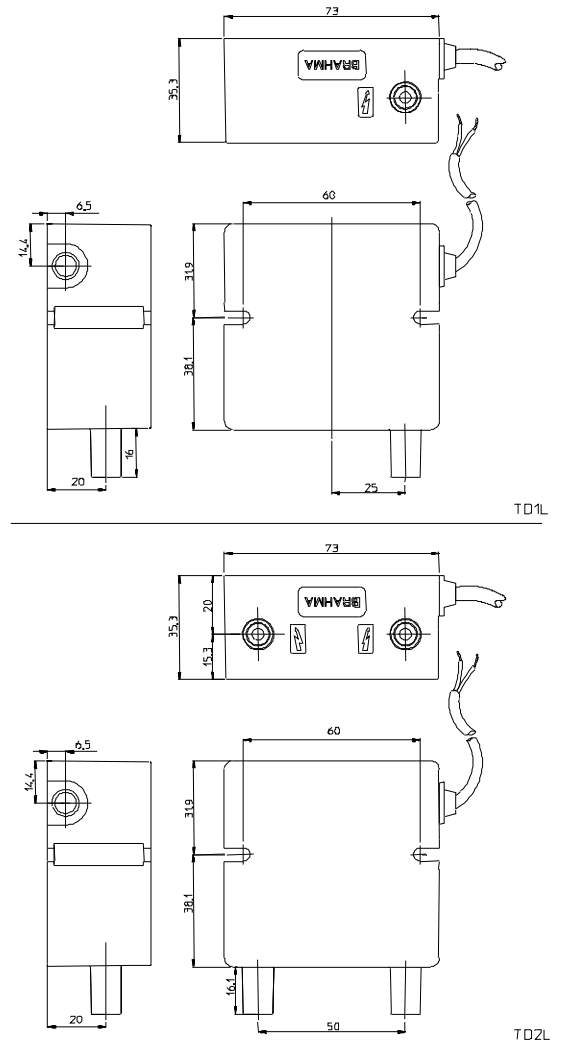

Fig.1
- C: supplied with cable (Fig. 1-Fig. 2);
- L: lateral isolators (Fig. 1);
Fig.1 and Fig.2 show the main overall dimensions of these transformers.